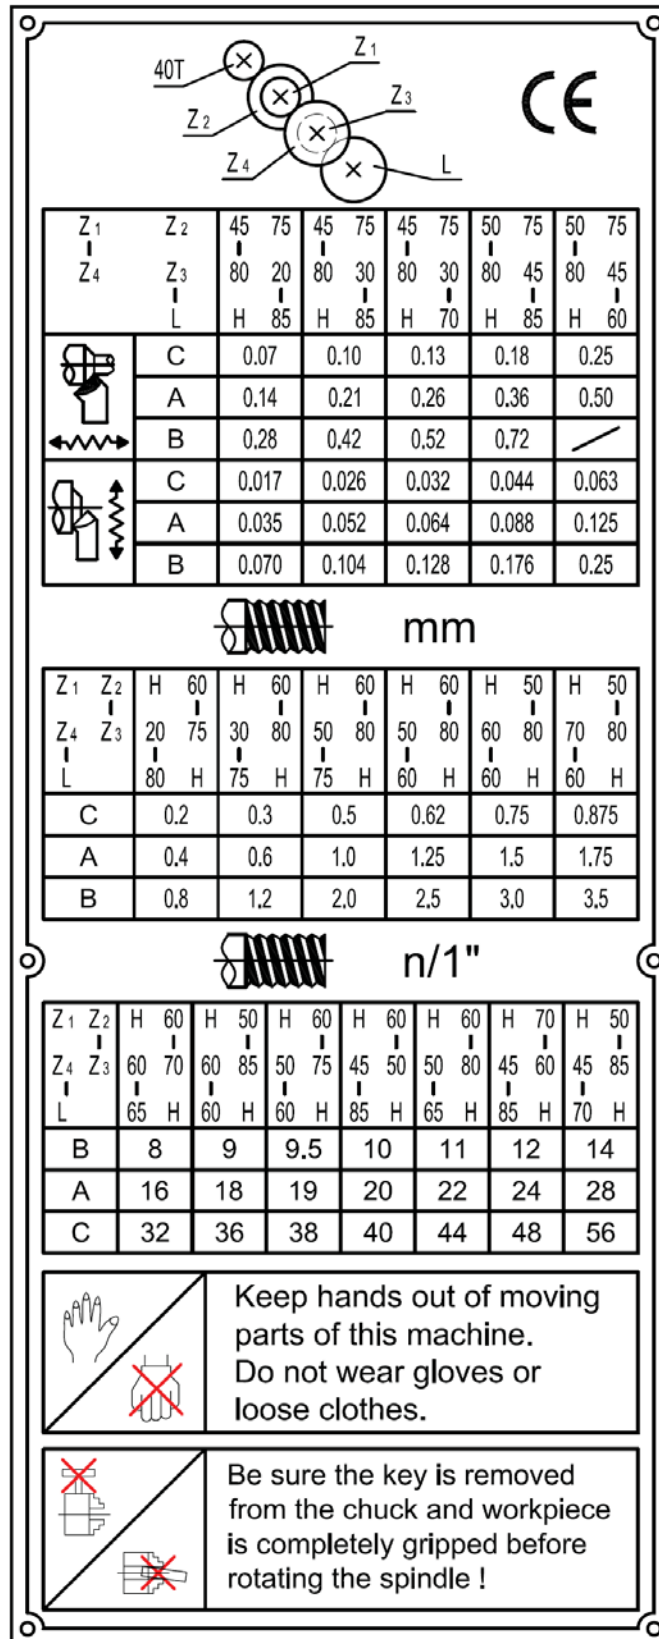

Fig. 24
6. Install the gear couples according to the thread and feed table (Fig.24) and screw the gearwheels onto the quadrant again.
Set the machine up to the desired thread pitch (according to the threading chart, Fig.24). Start the machine and engage the half nut. When the tool reaches the part, it will cut the initial threading pass. When the tool reaches the end of the cut, stop the machine by turning the motor off and at the same time back the tool out of the part so that it clears the thread. Do not disengage the half nut lever. Reverse the motor direction to allow the cutting tool to traverse back to the starting point. Repeat these steps until you have obtained the desired results.